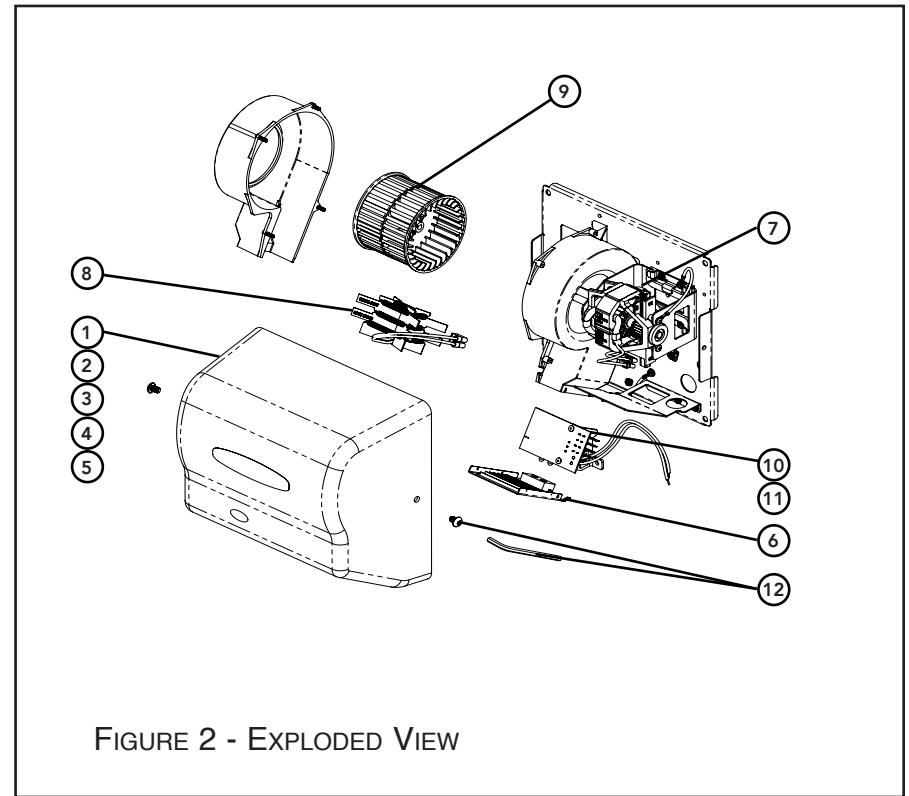

FIGURE 2 - EXPLODED VIEW
**PARTS LIST FOR YOUR DRYER (Figure 2)**